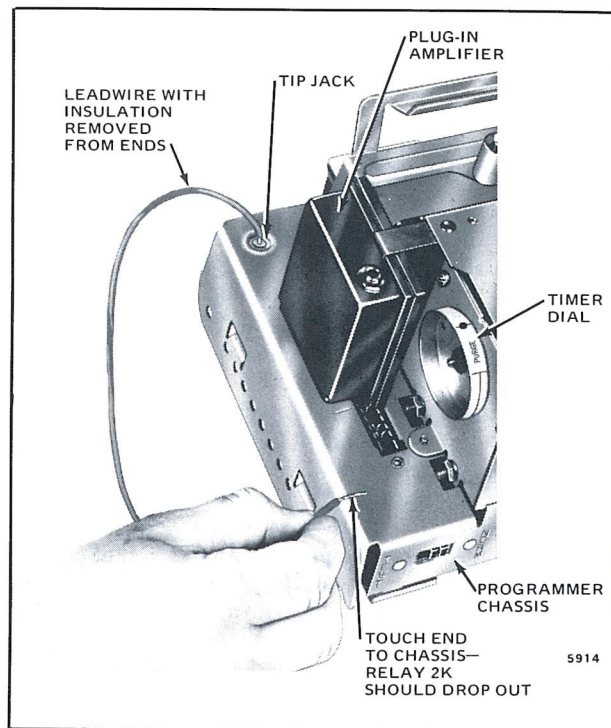

Fig. 14—Checking the plug-in flame signal amplifier for 2K hold-in (R7247A or R7249A only).
4. If the plug-in flame signal amplifier is an R7247A Rectification Amplifier (green) or an R7249A Ultraviolet Amplifier (purple), momentarily short the tip jack to the programmer chassis (Fig. 14). If this does not cause relay 2K to drop out, open the master switch and install a new amplifier.